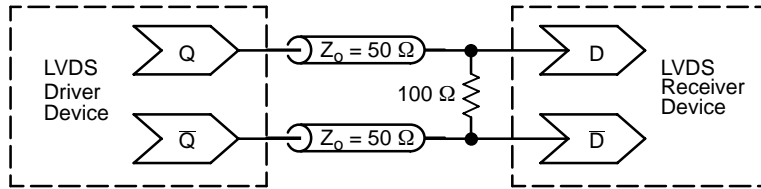

Figure 14. Typical LVDS Termination for Output Driver and Device Evaluation
4. LVDS outputs require 100  $\Omega$  receiver termination resistor between differential pair. See Figure 14.